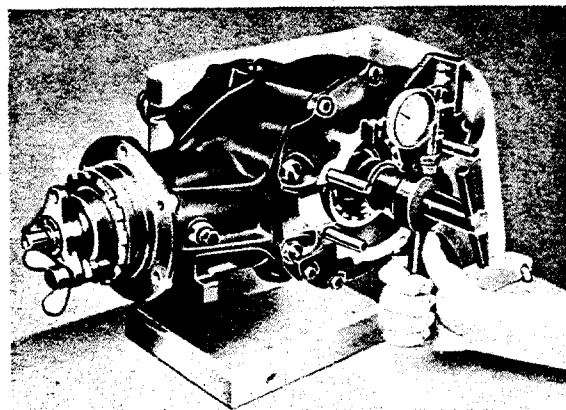

Fig. H 3/46
- a) Lock bevel gear shaft with a suitable clamping screw (Fig. H 3/46).